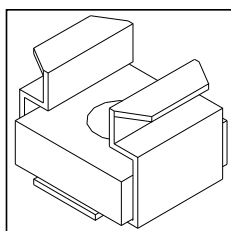

Figure 14: Square Bolt.
There are two (2) leveling legs and they can be found inside the manual bag. Each leveling leg consists of a long bolt, a hex nut, a washer, and a square bolt with clip (see Figure 14). For installation of the leveling legs the unit should be on its back and a $\frac{1}{2}$ " wrench is required for adjustments.